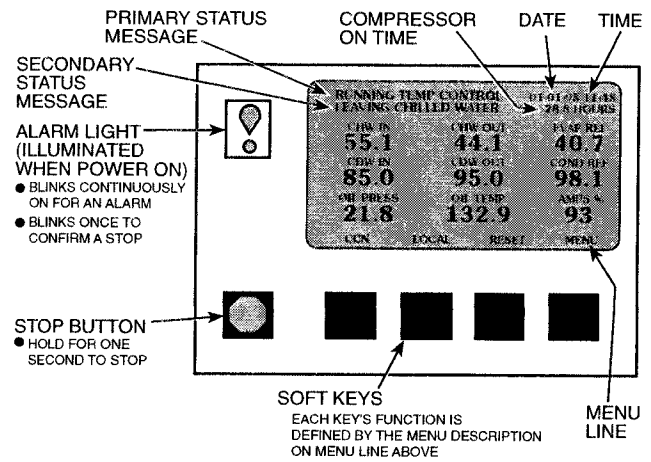

Fig. 12 — LID Default Screen
- The LID display automatically reverts to the default screen after 15 minutes if no softkey activity takes place and if the chiller is not in the pumpdown mode (Fig. 12).